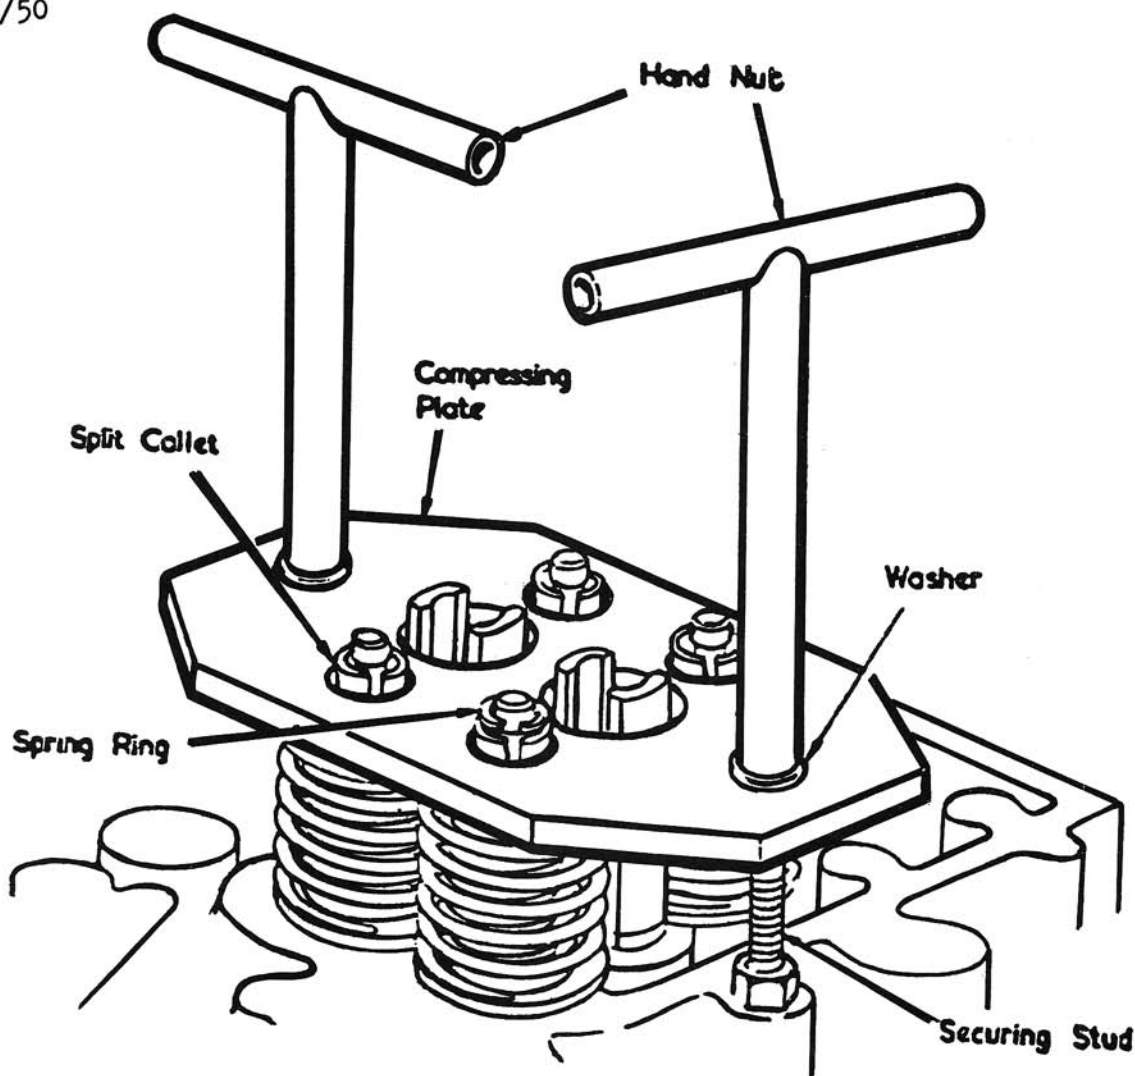

FIG 16 VALVE LIFTING TOOL
- (9) Fit temporary plug in injector tube.
- (10) Remove spring ring above the collet on the valve concerned and fit valve lifting tool. Fig. 16.
- (11) Screw down on the hand nuts evenly, until the spring plates are sufficiently depressed to enable the split collets of the valve concerned to be removed.
- (12) Release the hand nuts evenly. Remove the lifting tool and withdraw the top spring plate and faulty valve spring.
- (13) Renew spring refit lifting tool. Tighten hand nuts evenly until split collets can be refitted.
- (14) Remove lifting tool and refit spring ring.
- (15) Refit intermediate cover and secure push rod guard jubilee clips.
- (16) Refit push rods.
- (17) Ensure oil transfer tube is in place and sealing ring is fitted, then refit and secure rockers.
- (18) Reset tappet clearances.
- (19) Remove injector tube temporary plug and refit injector, fit fuel leakage trough and secure H.P. and leak off pipes.
- (20) Run engine and ensure no leaks or unusual noises.